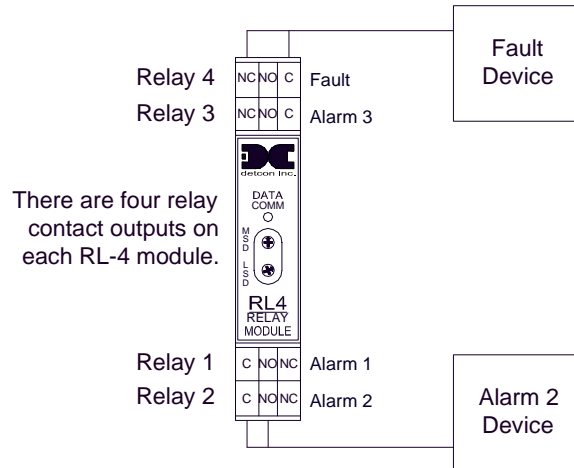

Figure 14 Model RL-4 Relay Output Module
There are four (4) Form C Single Pole Double Throw (SPDT), 5 Amp relays in each Model RL-4 module. Each relay in the module is assigned specifically to one alarm. Relay 1 is assigned to Alarm 1, relay 2 is assigned to Alarm 2, relay 3 is assigned to Alarm 3, and relay 4 is assigned to Fault. These can be used to control (fire) annunciating devices or as signal inputs to other control devices. Connections to the relay contacts of the RL-4 module are shown in Figure 14 and are labeled C (Common), NO (Normally Open) and NC (Normally Closed). Note that the 5 Amp rating of the relay contact should not be exceeded. RL-4 modules are installed on the DIN rail of the controller.